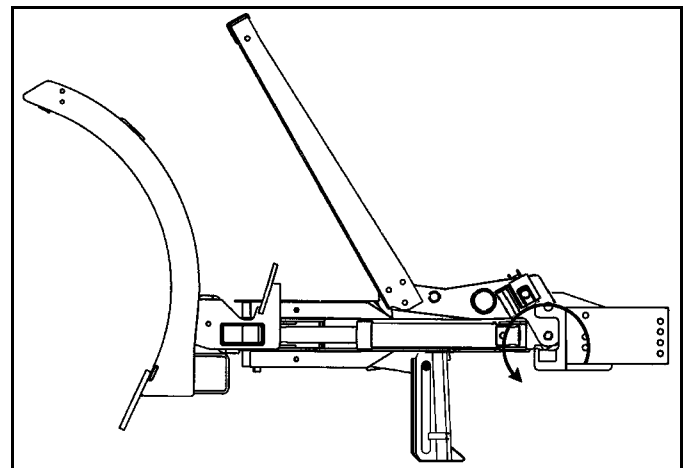

Figure 1-27
7. Rotate jack stand down and raise A-frame by pressing the up button. (See Figure 1-27).